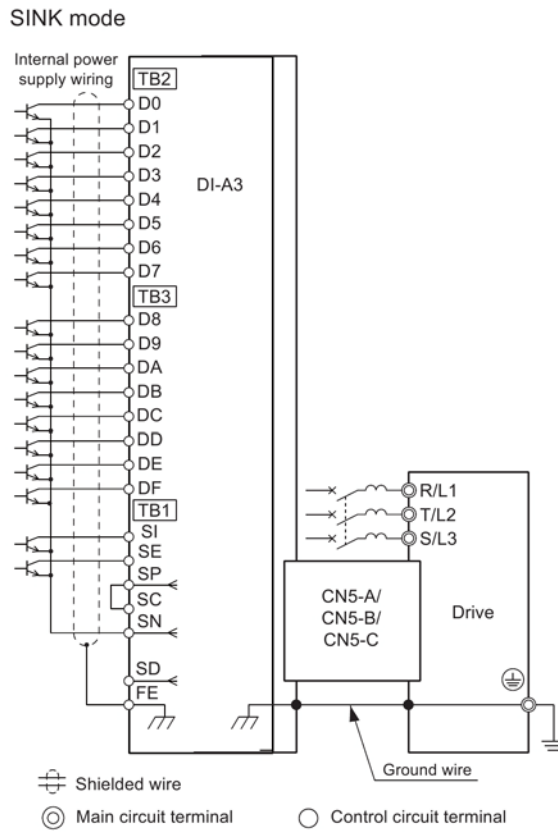

Figure 9: Option Connection Diagram
5. Wire the customer-supplied digital input signal to the terminal blocks on the option. Refer to Figure 9 for wiring instructions.